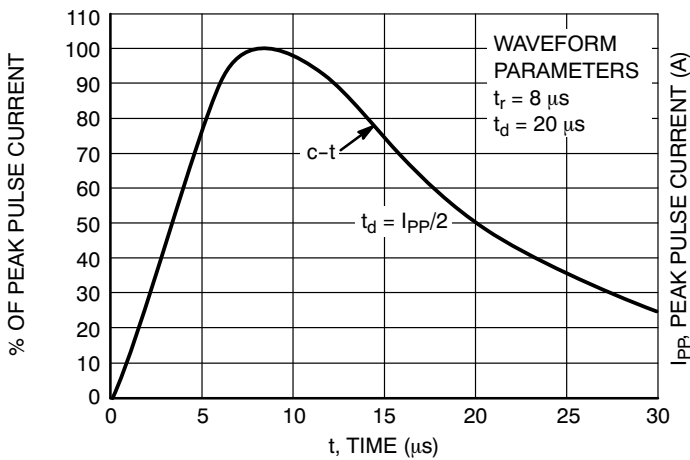

Figure 11. Pulse Waveform, 8 x 20 μs
10. Pulse waveform per Figure 11.